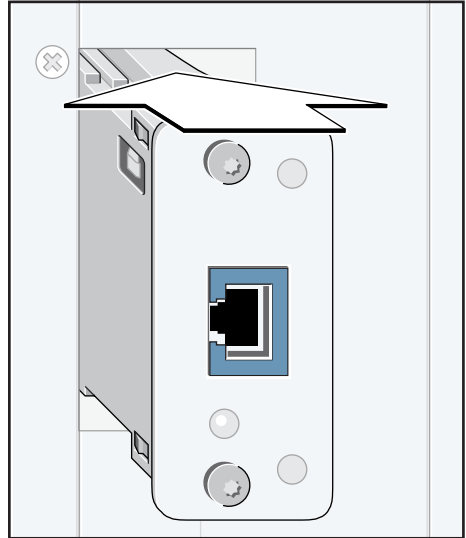

Fig. 2: Example: Inserting the interface module
2. Insert the IMenip interface module into the appropriate slot on the system component until it catches (example in Fig. 2).